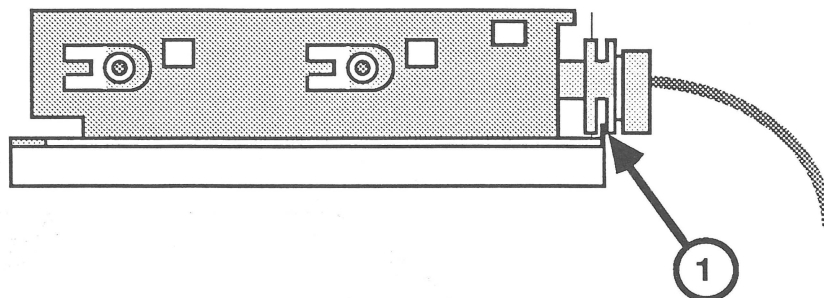

FIGURE 3
4. Now slide the drive assembly towards the front of the case top as far as it will go, so that the outermost groove on the external drive cable anchor fits over the tab on the edge of the case top (Figure 3, #1).